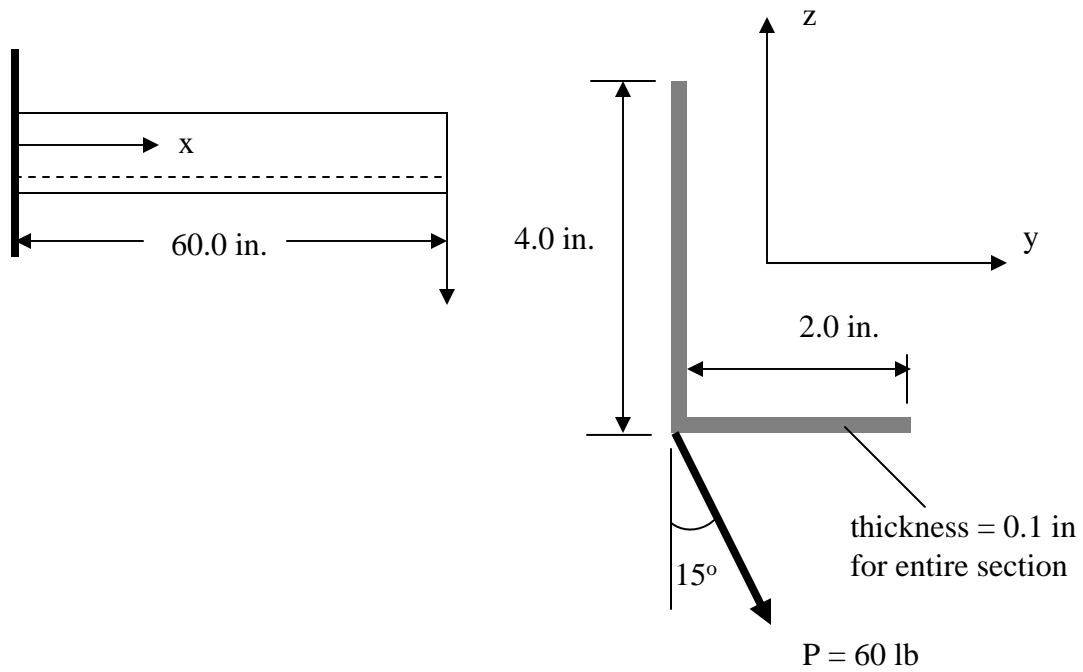

Fig. 4
4. The cantilever beam shown in Fig. 4 has an angle cross section of the dimensions shown. (distances are not measured to the centerlines here). the load P acts through the shear center.